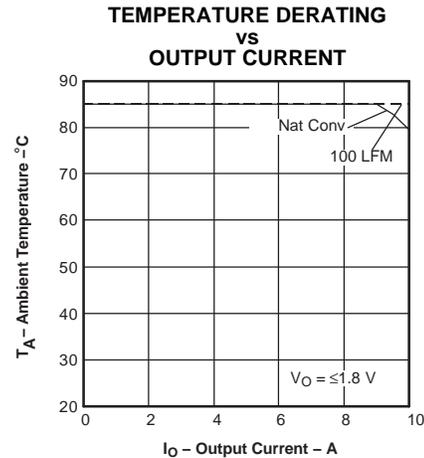

Figure 8.
- (2) SOA graphs represent the conditions at which internal components are at or below the manufacturer's maximum operating temperatures. Derating limits apply to modules soldered directly to a 4 in. x 4 in., double-sided PCB with 1 oz copper. For surface mount products (AS and AZ suffix), multiple vias (plated through holes) are required to add thermal paths around the power pins. Please refer to the mechanical specification for more information. Applies to Figure 8.
- (3) The peak-to-peak output ripple voltage is measure with an external 10 μF ceramic capacitor on the output.